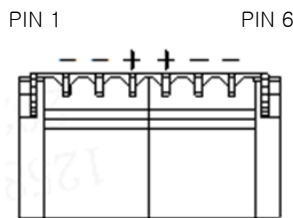

Figure.1 Top view of LED Bar Connector
2. Contrast measurements shall be made at viewing angle of $\theta=0^\circ$ and at the center of the LCD surface. Luminance shall be measured with all pixels in the view field set first to white, then to the dark (black) state. (See FIGURE 1 shown in Appendix) Luminance Contrast Ratio (CR) is defined mathematically.